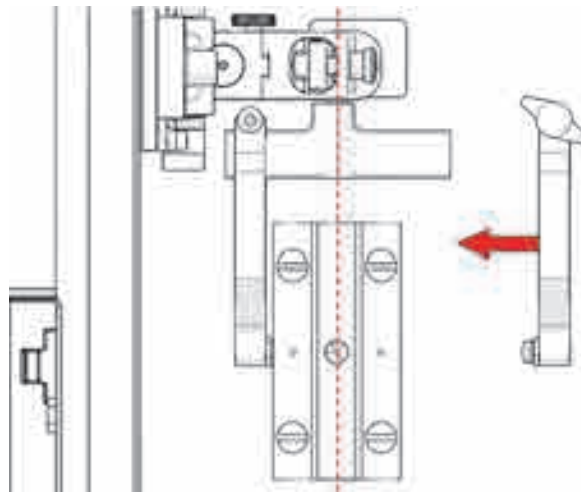

Figure 4-82 Remove outer arm
5. Align the middle of the wedge with the center of the yoke (see Figure 4-82 on page 154).